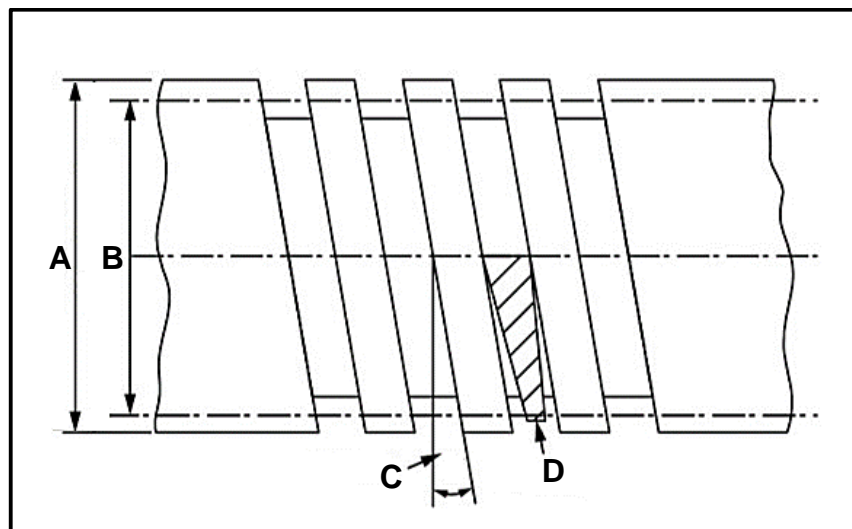

FIGURE 10.2
- 10.2 FIGURE 10.2 below shows a square thread. Label **A–D**.